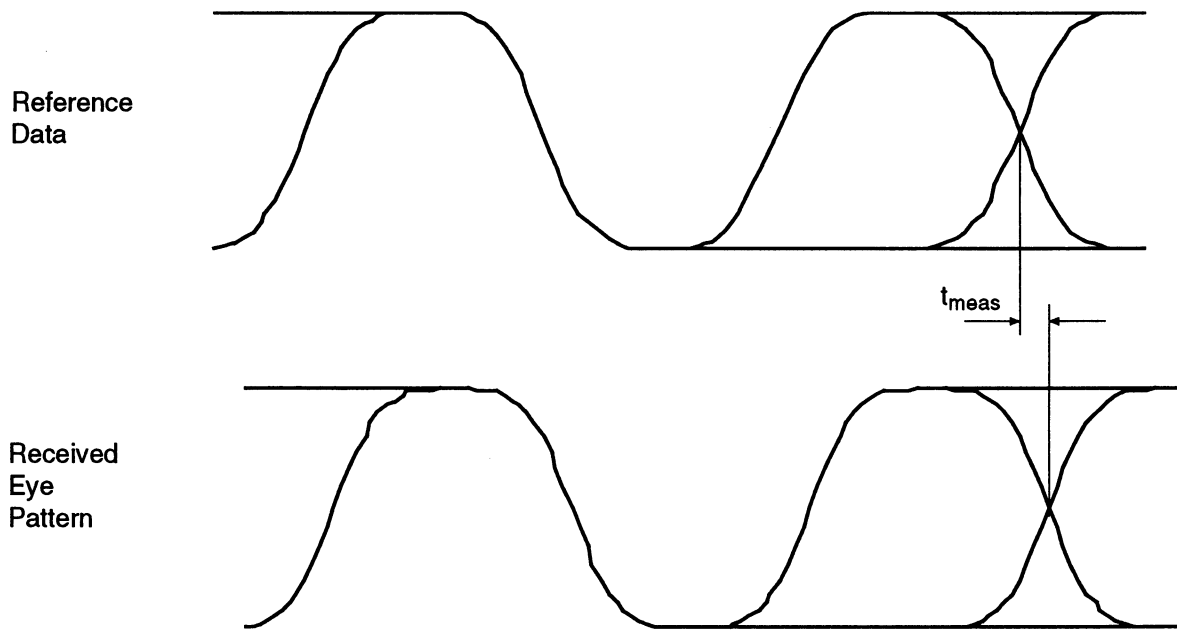
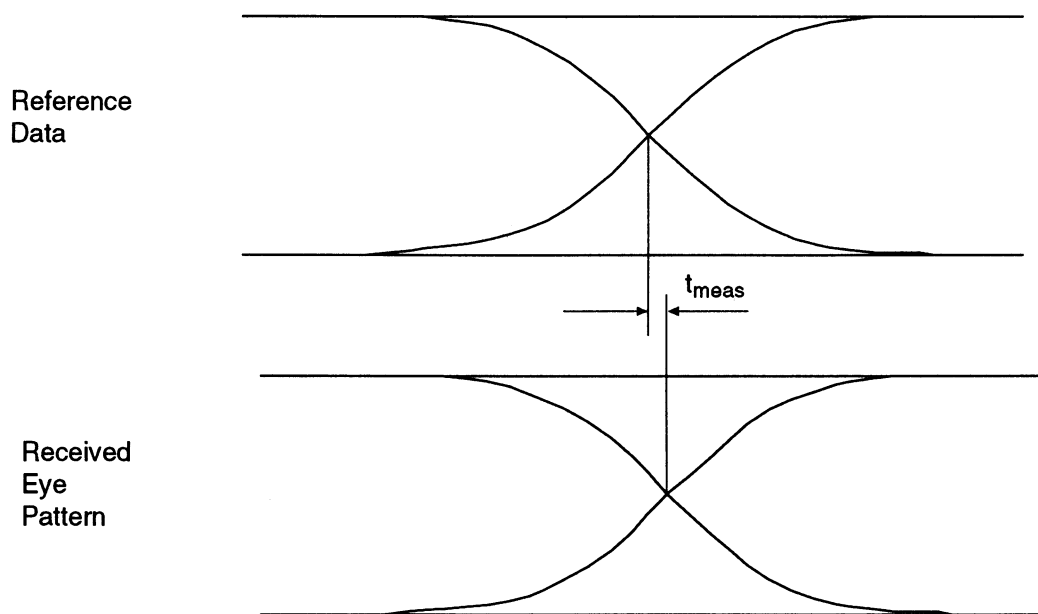

Figure 42. Four-Level Time Delay Measurement #2
Figure 43. Four-Level Time Delay Measurement #3
Step 30. Adjust the scope timebase so you can observe one "X" (zero cross) on each scope trace. See Figure 42. The scope timebase should be set to either 20 $\mu\text{s}/\text{div}$ (Figure 42), or 10 $\mu\text{s}/\text{div}$ (Figure 43).
Step 31. Measure the time delay between the two eye patterns (see Figures 42 and 43).
Step 34. Repeat steps 31-33 until the two scope traces are in perfect alignment (within 2.6 μs of one another). Refer to Figure 43.